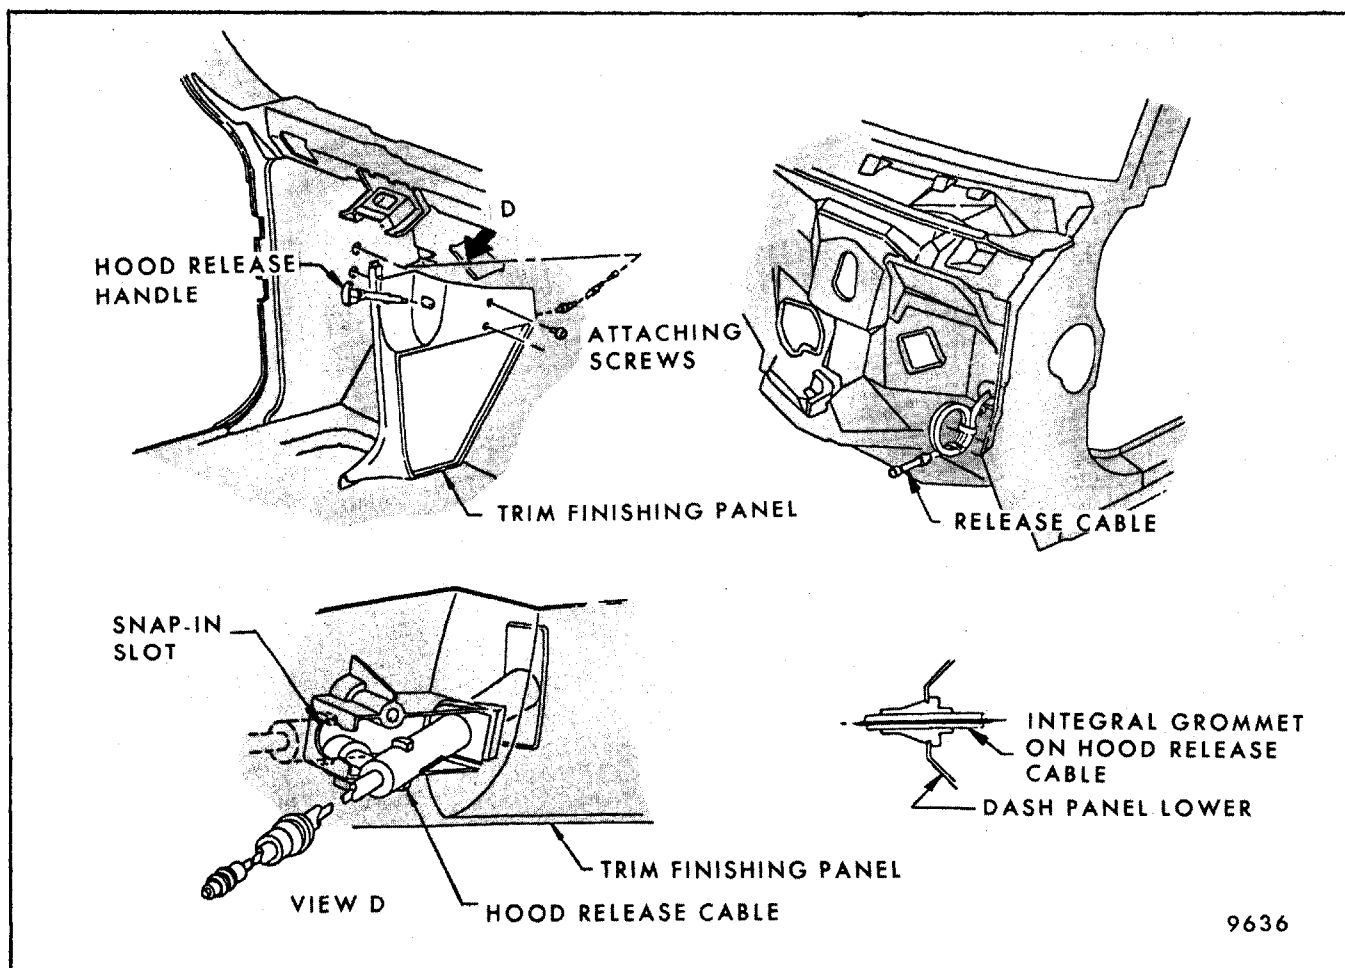
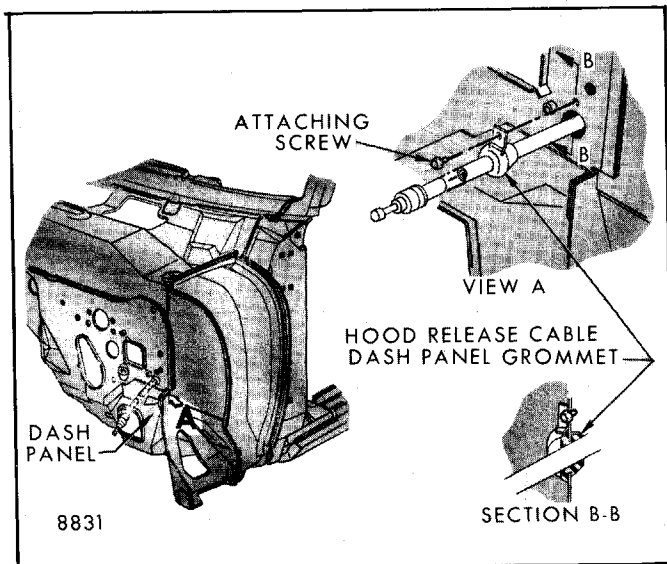

Fig. 4-7-Shroud Side Finishing Panel - A Styles
Fig. 4-14 - Hood Release Cable Dash Panel Grommet
2. Remove screw securing release cable grommet to dash panel and remove grommet from cable (Fig. 4-14). For A styles, the grommet is molded to the cable and must be pushed through the dash panel. There is no screw used to secure grommet to dash panel on this style (Fig. 4-7).
3. Remove screw securing release cable grommet to firewall and remove grommet from cable (Fig. 4-14).
2. Remove screw securing release cable grommet to dash panel and remove grommet from cable (Fig. 4-14). For A styles, the grommet is molded to the cable and must be pushed through the dash panel. There is no screw used to secure grommet to dash panel on this style.